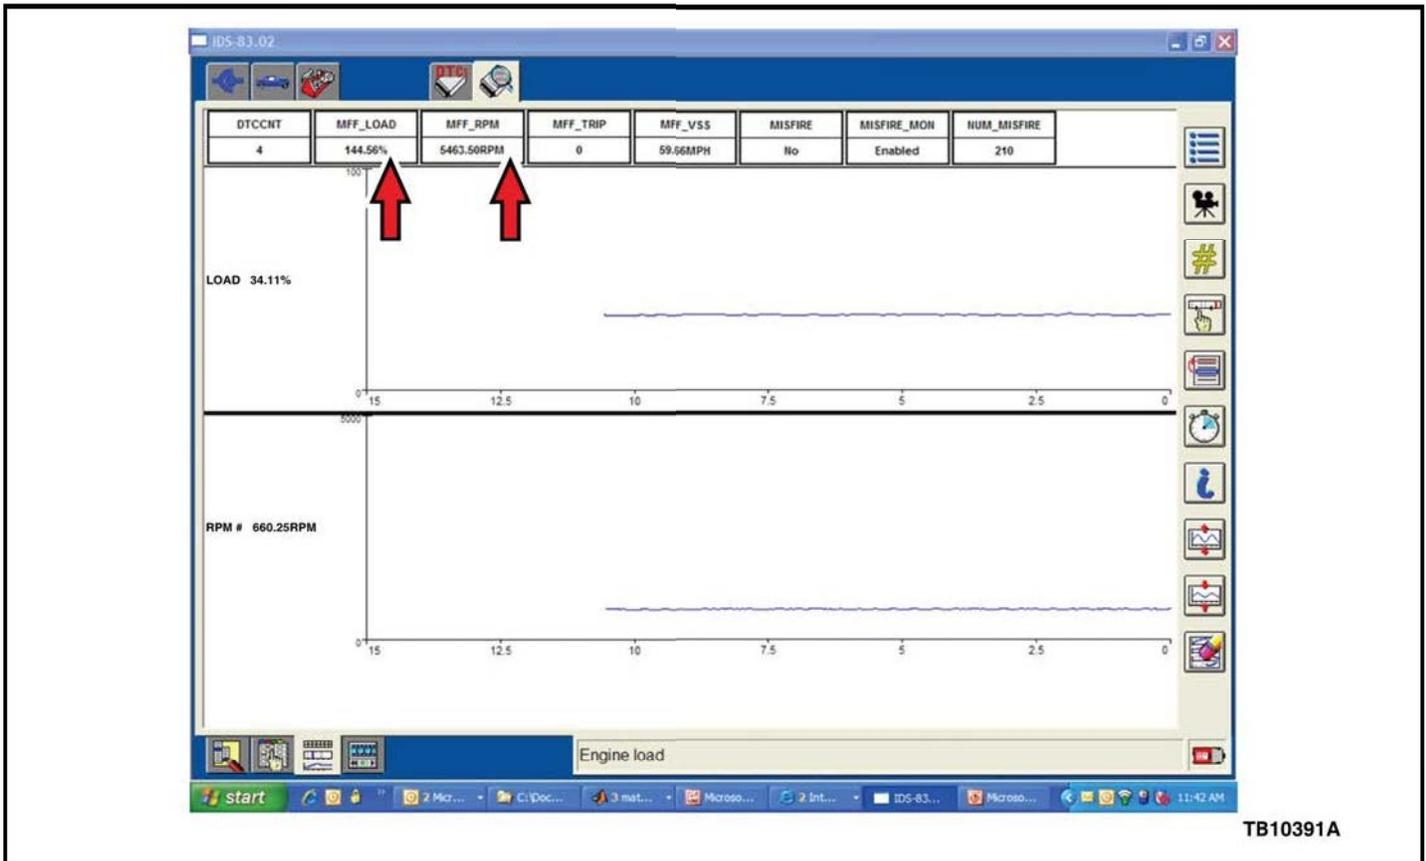

Figure 1 - Article 14-0017
3. Does the Misfire Freeze Frame Data indicate engine speed above 2500 rpm and load 100% or above? (Figure 1)